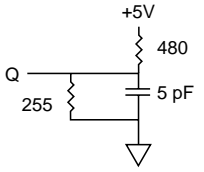

Fig. 2 OUTPUT LOAD EQUIVALENT
6. t1HZCE, t1HZOE and t1HZWE are specified with CL = 5pF as in Fig. 2. Transition is measured ±500mV from steady state voltage.